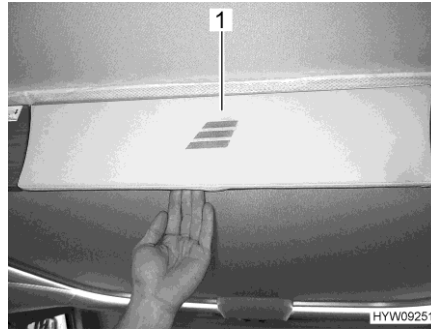

Fig. 106 Panel (pull-down bed)
- Pull panel (Fig. 106,1) to unlock the pull-down bed.